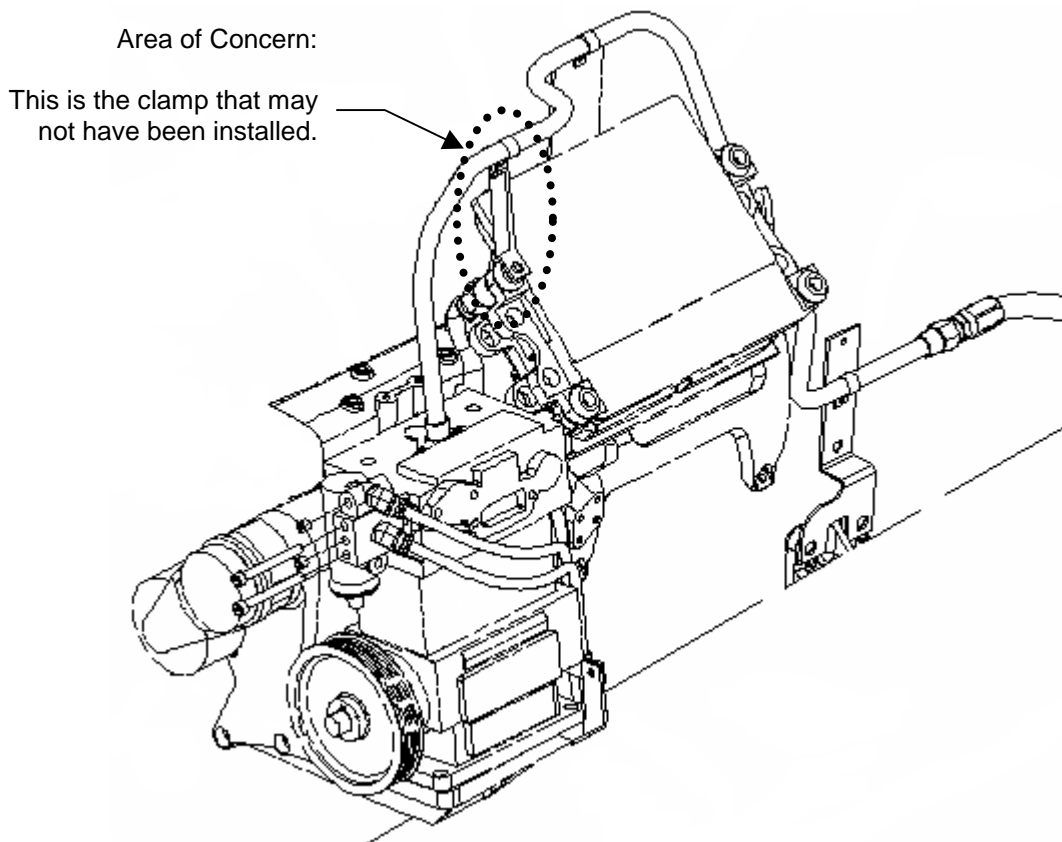

Figure 1
2. Ensure copper air compressor tube is supported as shown in Figure 1.
3. If the vehicle **does not** contain the clamp as shown in Figure 1, skip down to **Installation Procedure** below.
11. Install assembly on engine ECM as shown in Figure 1.